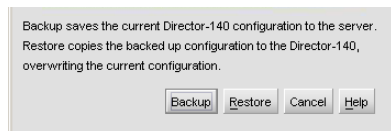

Figure 49: Backup and Restore Configuration dialog box
- c. Choose **Maintenance > Backup & Restore Configuration**. The Backup and Restore Configuration dialog box displays, as shown in Figure 49.
3. Choose **Maintenance > Backup & Restore Configuration**. The Backup and Restore Configuration dialog box displays, as shown in Figure 49.